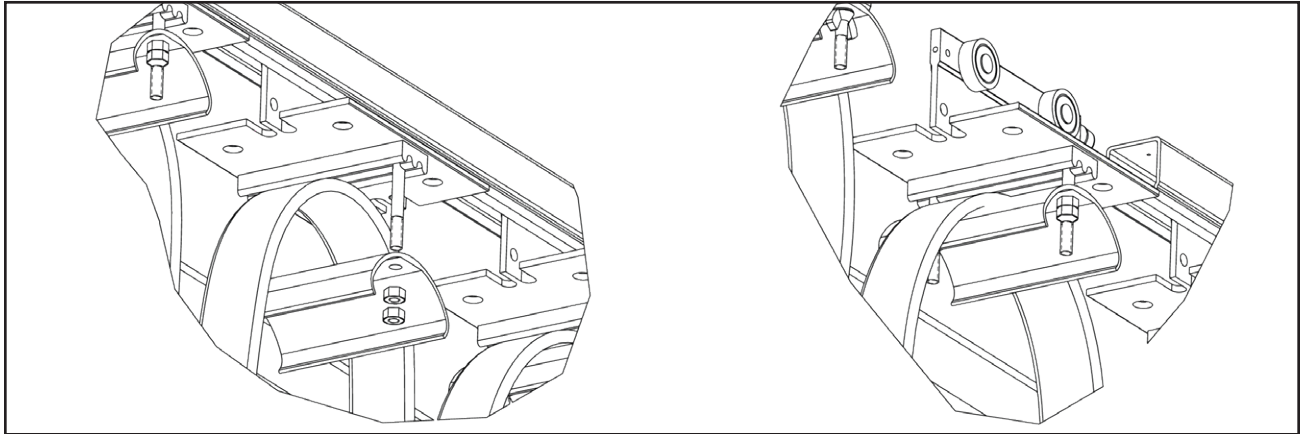

Figure 9-1
1. With the channel securely located, install the carriers into the slot of the C-Track. Place all trolleys into the track. See **Figure 9-1**.